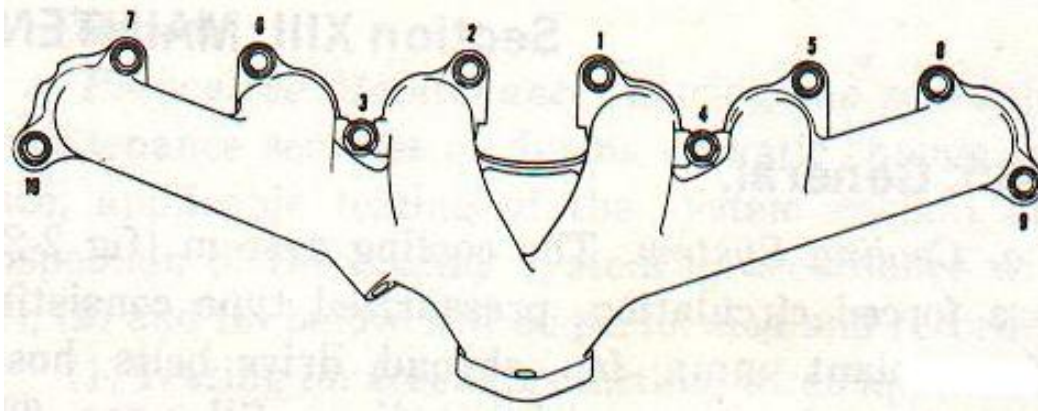

Figure 2-22. Exhaust manifold nut tightening sequence.
- (1) Install new exhaust manifold gasket.
- (2) Position exhaust manifold on cylinder head assembly.
- (3) Install ten flat washers and attaching nuts. Tighten to 25-30 lbs-ft. in sequence as shown if figure 2-22.
- (4) Position new exhaust pipe gasket on exhaust pipe flange.
- (5) Connect exhaust pipe to manifold. Position exhaust pipe flange to manifold flange and install two bolts and hex nuts, Tighten nuts to 20-30 lbs-ft.